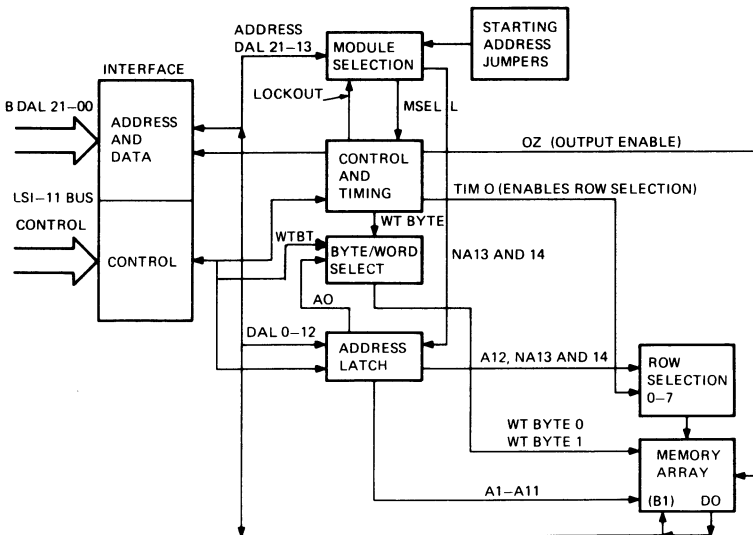

Figure 19-30 MCV11-D Block Diagram
The MCV11-D is an LSI-11 Bus device, and supports the DATI, DATO(B), and DATIO(B) cycles described in Chapter 9, the LSI-11 Bus chapter. Figure 19-30 is a block diagram of MCV11-D functions.